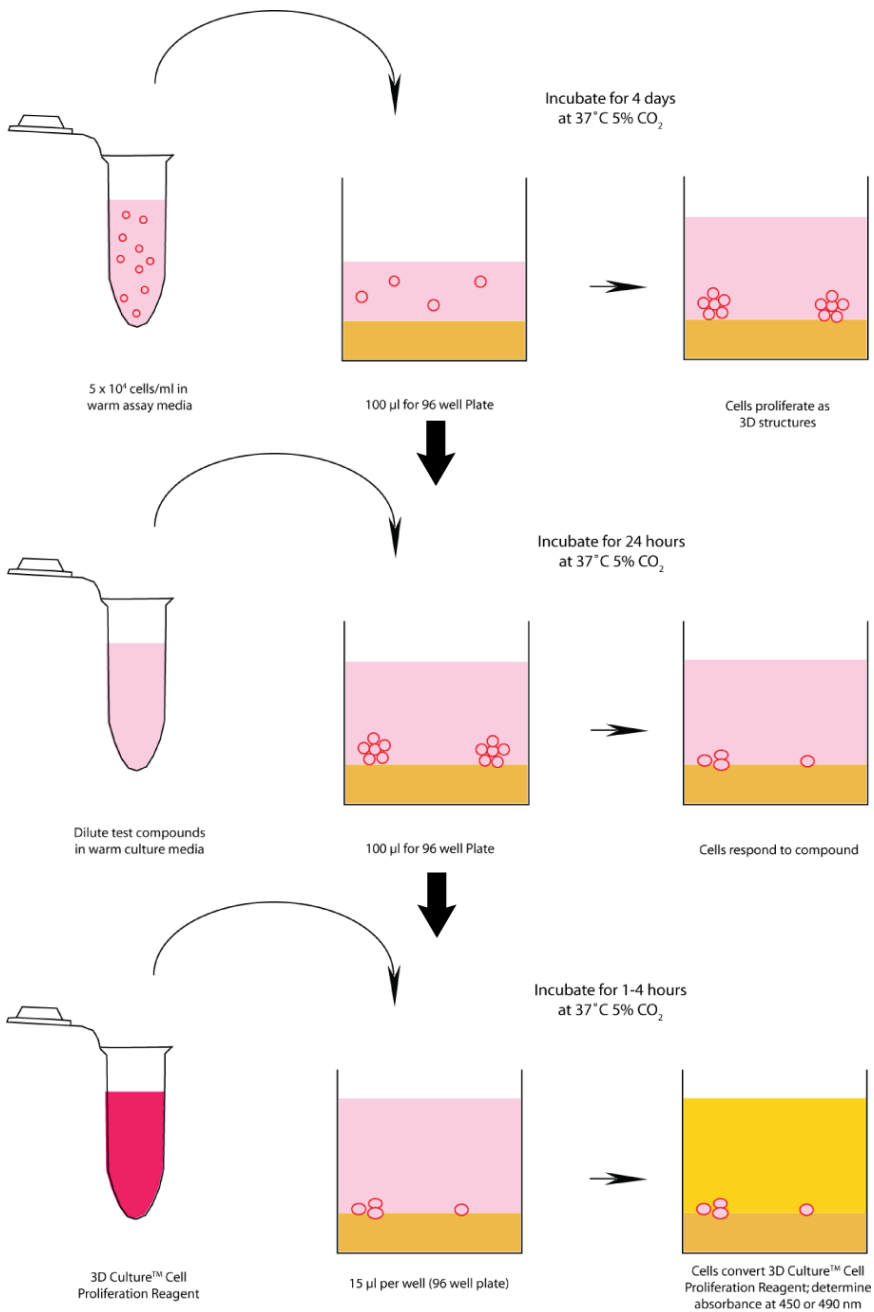

Figure 4. Illustration of protocol for assessment of toxicity in 3D culture.
1. Culture cells at 37°C in CO2 incubator for 48 - 96 hours to promote the formation of 3D structures (Figure 4).